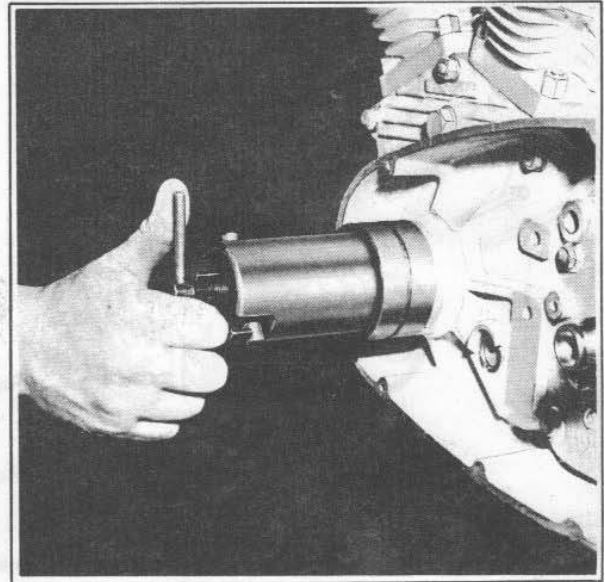

Figure 3-40. Removing Sprocket Shaft Extension
5. Using Sprocket Shaft Extension Puller, Part No. 96015-56 for 1976 and earlier models and 96015-77 for 1977 and later models, remove sprocket shaft extension (1, Figure 3-42), as shown in Figure 3-40. For models equipped with a solid sprocket, use Claw Puller, Part No. 95635-46.